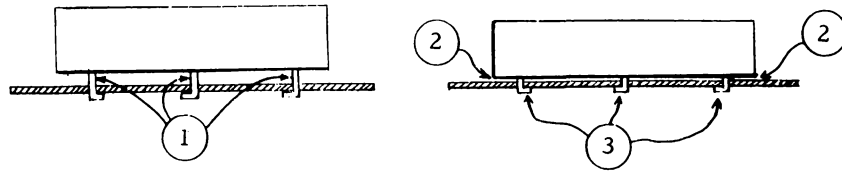

Figure 3-11
- a. Clip leads as shown in 1, Figure 3-11.
- c. Insert new potted assembly through card. New assembly should be within $1/16'' \pm 1/32''$ from the card. (2, Figure 3-11.)
- d. Bend leads back against card along the conductor which terminates at that mounting hold and clip excess off (all over $1/8''$). Solder the termination. Use extreme care when soldering so the card laminations will not be lifted off the card assembly. (3, Figure 3-11.)
11. Wiring within a Pluggable Unit (Figures 3-11 and 3-13).